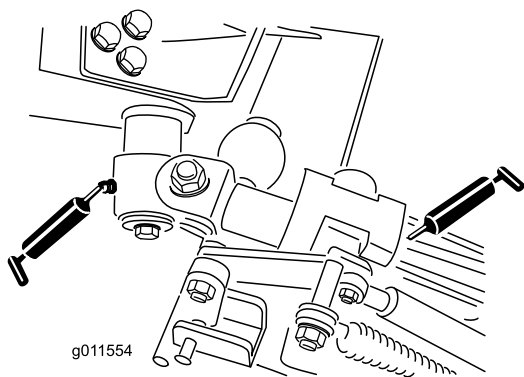

Figure 50
- 2 bell-crank-pivot bushings (Figure 50)
- 4 rear arm bushings (Figure 50)